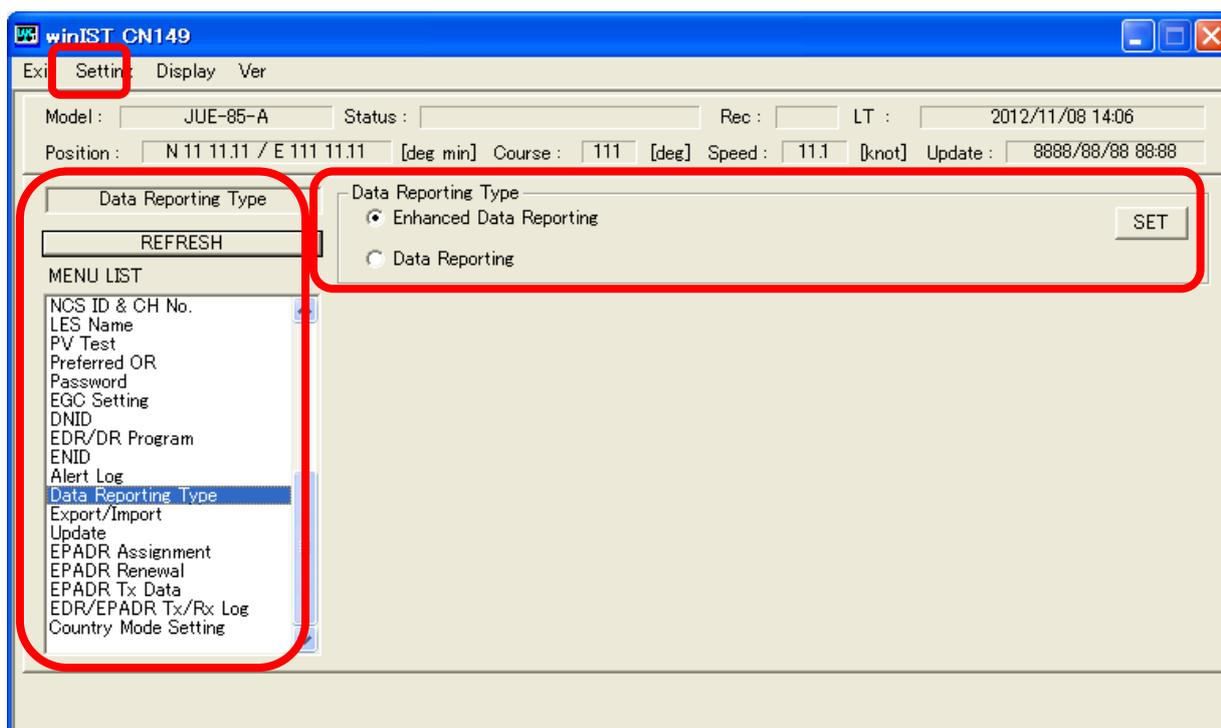

Fig. 4-31-1 Data Reporting Type screen display
Note 2: Operation except [Exit], [Display], and/or [Ver] is unavailable while winIST is communicating with INMARSAT terminal(the functions in the frame of **Fig. 4-31-1 Data Reporting Type screen** cannot be operated.)
3. Operation except [Exit], [Display], and/or [Ver] is not possible while winIST is communicating with INMARSAT terminal(the function of **Fig. 4-31-1 Data Reporting Type screen** cannot be operated.)